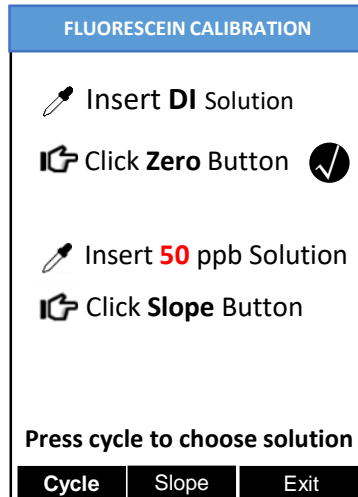

Figure 5
- 5) After successful zero set, a checkmark symbol will appear next to “Click Zero Button” to confirm success. The screen will also update to show the Slope steps, as in Figure 5. The Cycle command replaces Zero on the black bar and the possible fluorescein selection is displayed in red. The default is 50 ppb.